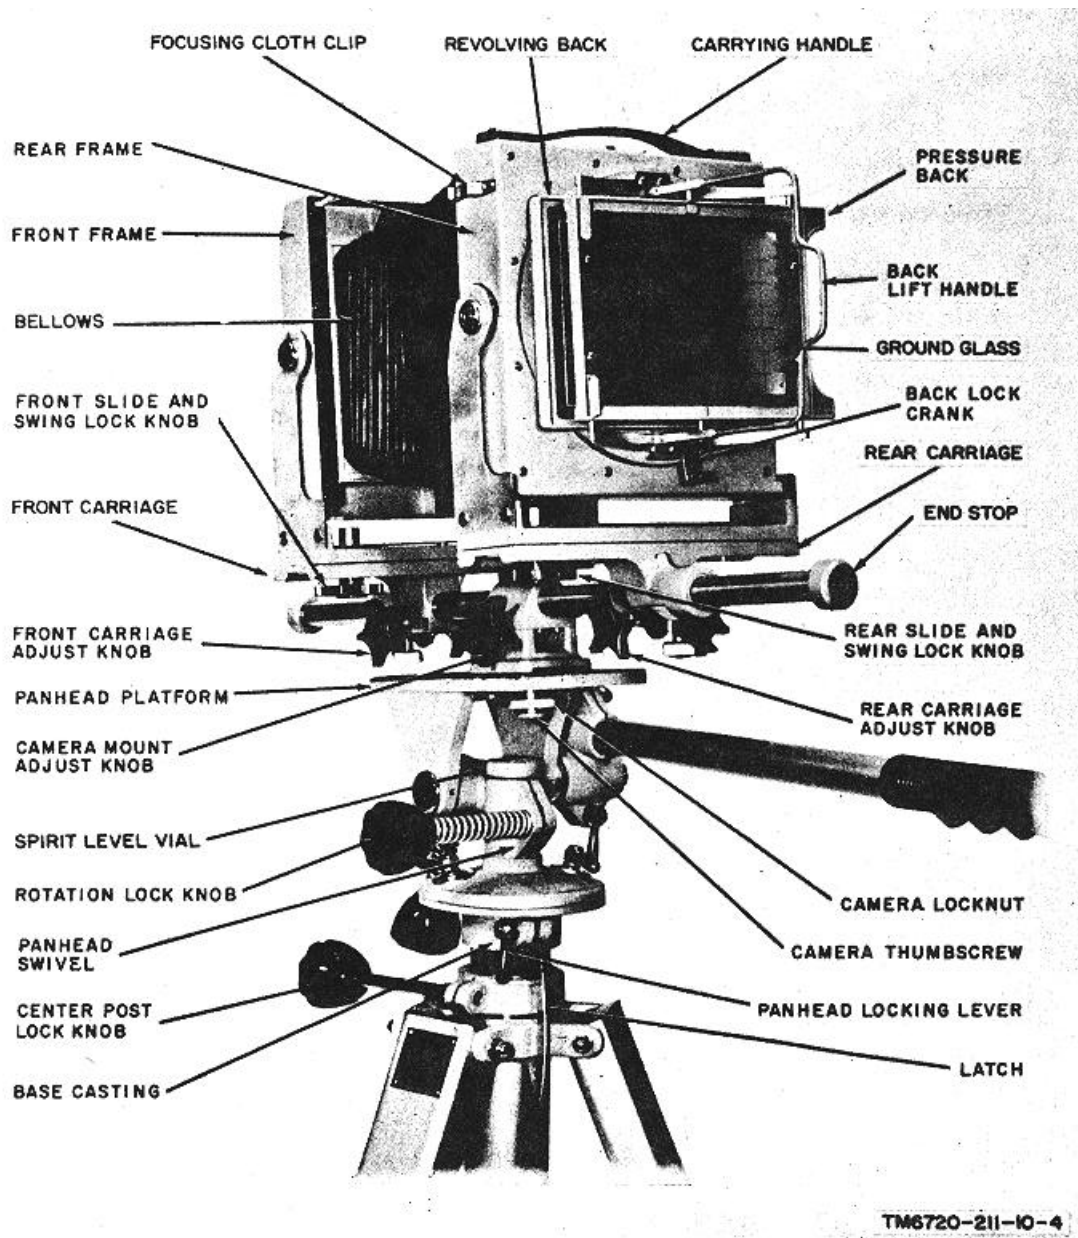
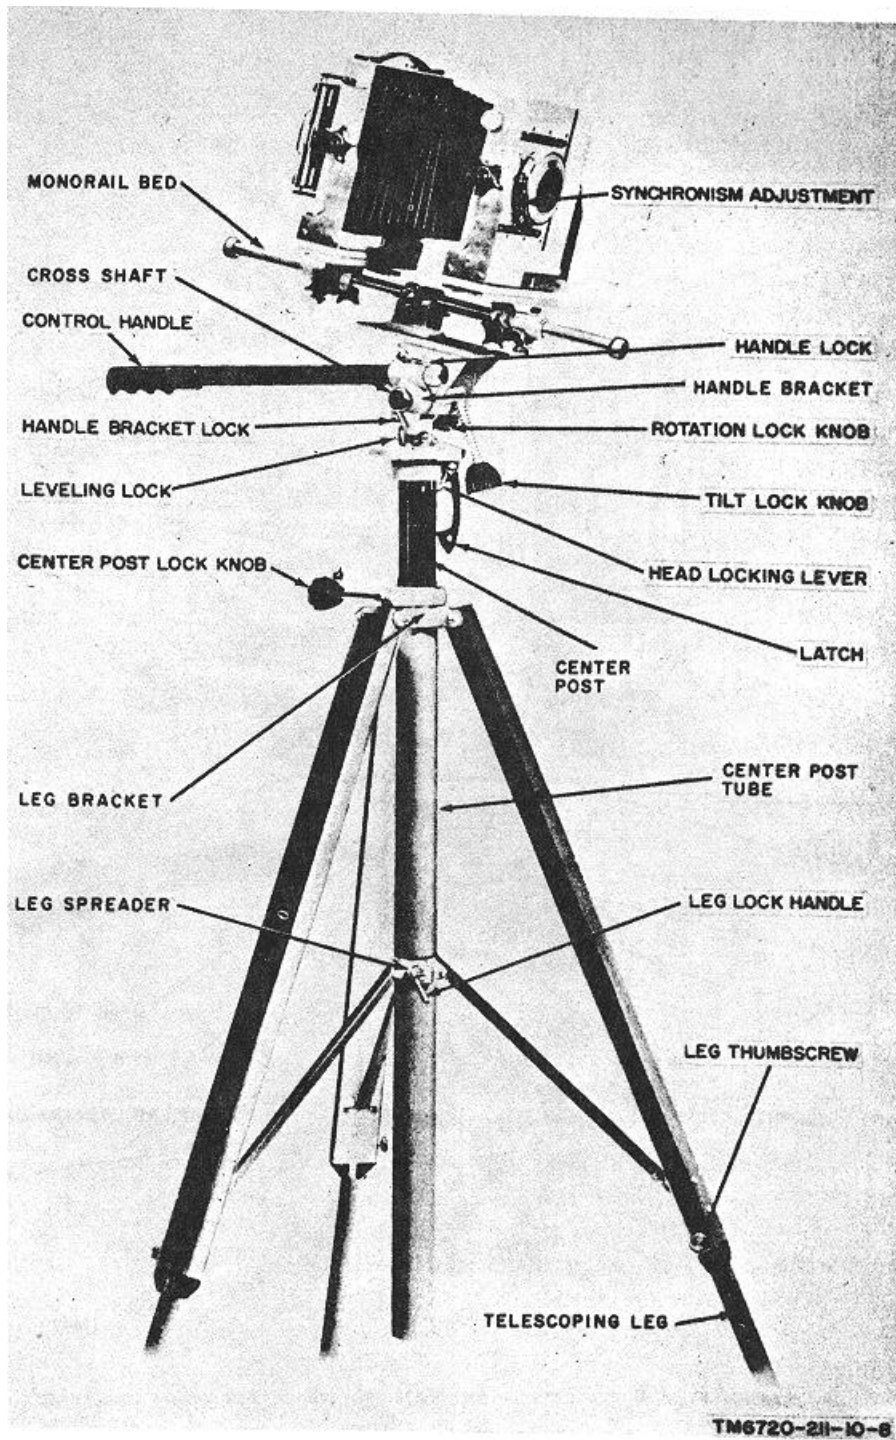

Figure 6. Camera component, left rear view, operating controls.
Figure 7. Tripod, operating controls.
Do not loosen the center post lock knob (fig. 6). The center post is heavily spring-loaded and will eject with great force if the center post
| Camera mount adjust knob (fig. 6). | Positions camera mount on monorail bed. |
| Back lift handle (fig. 6). | Raises pressure back to facilitate cut-film holder and film pack adapter insertion. |
| Front slide and swing lock knob (fig. 6). | Locks front frame in position on front carriage. When loosened, permits swinging and/or sliding of front frame on front carriage. |
| Leg thumbscrews (fig. 7). | Locks telescoping legs in position. When loosened, permits telescoping legs to be lengthened or shortened. |
| Rotation lock knob (fig. 6). | Locks panhead swivel in position. When loosened, permits rotation of panhead swivel. |
| Tilt lock knob (fig. 7). | Locks panhead platform in position. When loosened, permits changing panhead platform angle of tilt. |
| Panhead locking lever (fig. 6). | Clamps base casting to center post. |
| Control handle (fig. 7). | Rotates and tilts panhead. |
| Latch (fig. 6). | Secures center post in telescoped position. |
| Leveling locks (fig. 7). | Secure head casting to base casting. |
| Panhead level vial (fig 6). | Facilitates leveling tripod. |
- a. Loosen the three leg thumbscrews (fig. 7) and extend the three telescoping leg extension. Perform this operation with the telescoping legs closed against the center post tube so that all three legs can be extended approximately the same amount.
The position of the control handle with respect to the plane of the panhead platform (fig. 6) can be changed by loosening the handle bracket lock and shifting the handle bracket on the cross shaft. Tighten the handle bracket lock securely after making the desired adjustment. The protrusion of the control handle (fig. 7) may be shortened by loosening the handle lock and sliding the shaft of the control handle in the handle bracket. Tighten the handle lock securely after adjusting the control handle.
- e. Loosen both the leveling locks and shift the position of the upper portion of the base casting until the spirit level vial (fig. 6) indicates a level condition. Only limited adjustment is available by this method. If leveling cannot be obtained, lengthen or shorten one of the telescoping legs to bring the panhead within range of
b. Center bottom of the mounting adapter (fig. 6) over the camera thumbscrew projecting through the panhead platform.
a. Attach the focusing cloth (fig. 1) under the two focusing cloth clips (fig. 6) on the top sides of the rear frame.
h. To produce the desired image on the ground glass, the height, angle, and direction of the camera may have to be changed. Use the tripod controls ((1) through (4) below) as required.
- (1) To initially adjust the camera height, loosen the leg thumbscrews (fig. 7) and extend or retract the telescoping legs as required;
- (1) Loosen the camera mount lock (fig. 5) and turn the camera mount adjust knob (fig. 6).
- (2) After positioning the camera with respect to the subject, tighten the camera mount lock.